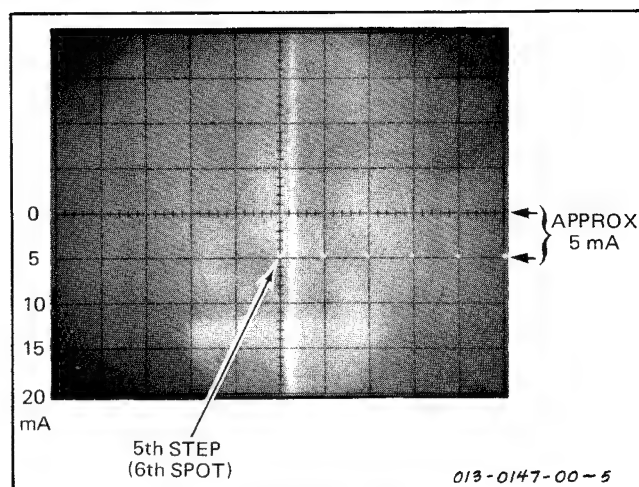

Fig. 2-11. Illustration of Example 3, part g.
g. Turn the NUMBER OF STEPS control clockwise until five steps (six spots) are displayed. See the typical display, Fig. 2-11.